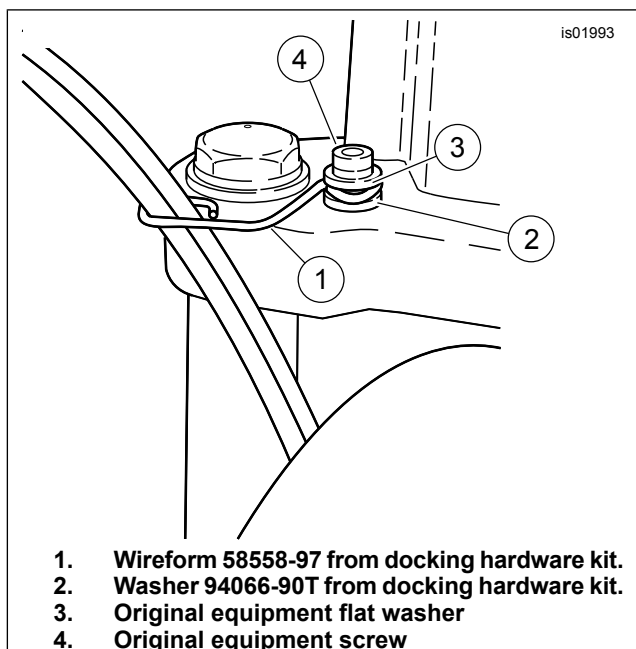

Figure 1. Throttle Cable Attachment
3. See Figure 1. Use the wireform (1) from the Docking Hardware Kit to secure the throttle cables to the upper mounting clamp as shown. Place the chrome washer (2) from the kit between the wireform and the mounting clamp nut.